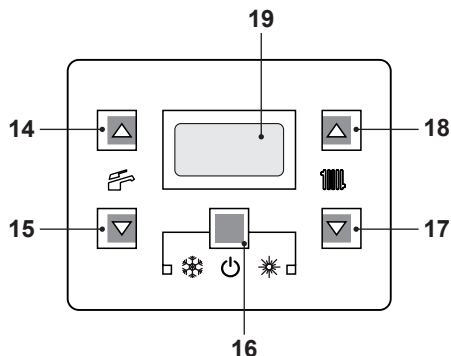

Fig. 2.7
- Press the key 16 for 2 seconds until the symbol appears on the display Fig. 2.7.
The output temperature of C.H. water can be adjusted by pressing keys 17 (reduce) and 18 (increase) (Fig. 2.7) from a minimum of about 25°C to a maximum of about 85°C. Press one of the two keys once to display the "set" value. Press again to access the modification.
However, if the ambient temperature is not comfortable, the flow temperature of the heating system can be adjusted by  $\pm 15^\circ\text{C}$  by pressing on keys 17 (reduce) and 18 (increase) (Fig. 2.7).